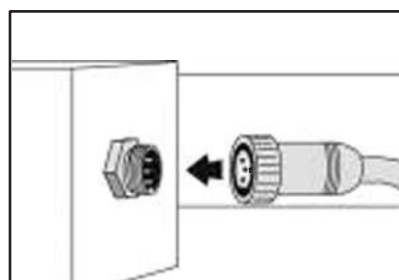

Figure 27
1. Attach the connector plug on the coil cord to the tilt motor socket on the rear of the tilt motor housing. A keyway must be aligned before the connector will seat (Figure 27).